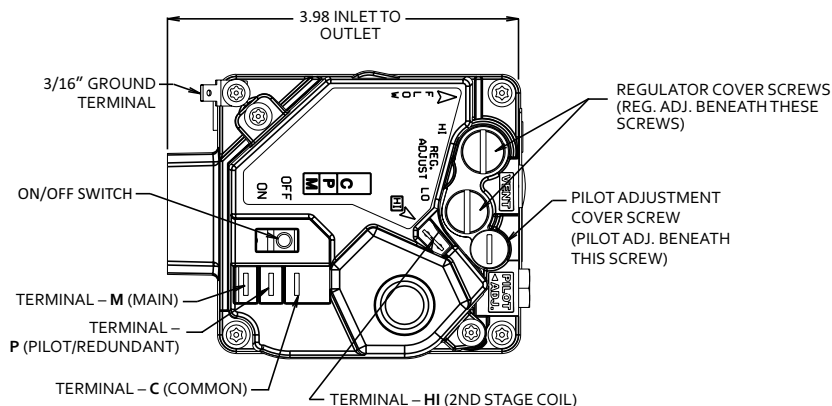

Figure 4. Features and Terminal Identification
REFER TO AND FOLLOW THE APPLIANCE MANUFACTURER'S WIRING DIAGRAM. REFER TO FIG. 4 AND 5 FOR TERMINAL IDENTIFICATION.
- For non-piloted gas applications HSI and DSI, connect common wire to (C) terminal and hot wire to external jumper (MP) terminal (see fig. 4 and 5).
- For proven/intermittent pilot gas applications such as intermittent pilot or spark-to-pilot systems, remove the external wire jumper from the main (M) and pilot (P) valve terminals and connect wires accordingly (see fig. 4 and 5).